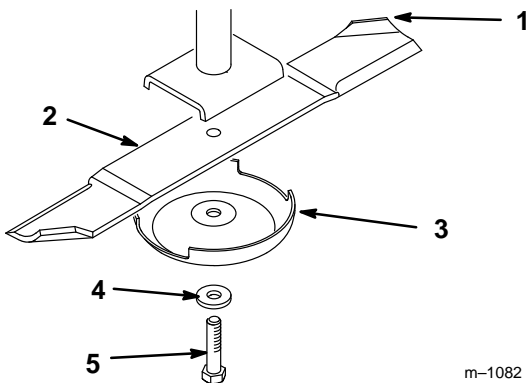
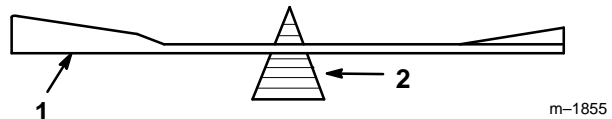

Figure 11
Figure 13
Hold the blade end using a rag or thickly-padded glove. Remove the blade bolt, washer, anti-scalp cup and blade from the spindle shaft (Fig. 11).
2. Check the balance of the blade by putting it on a blade balancer (Fig. 13). If the blade stays in a horizontal position, the blade is balanced and can be used. If the blade is not balanced, file some metal off the end of the sail area only (Fig. 11). Repeat this procedure until the blade is balanced.
1. Install the blade onto the spindle shaft (Fig. 11).
2. Install the lock washer and blade bolt (Fig. 11). Torque the blade bolt to 85–110 ft-lb (115–140 N•m).